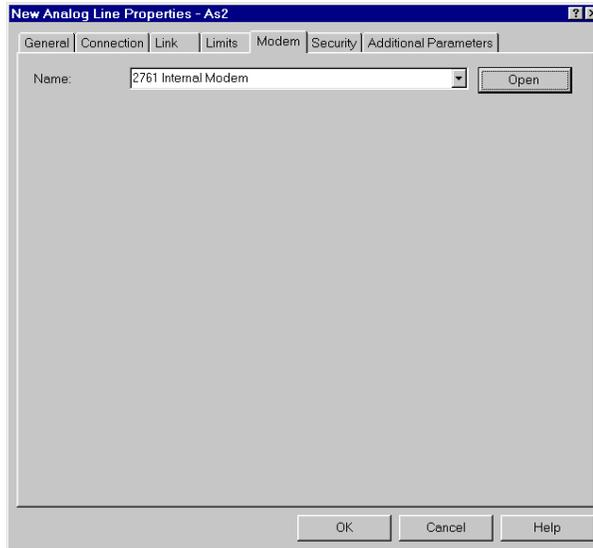

Figure 37. Selecting the Modem page
6. Click the **Modem** tab (Figure 37 on page 50).